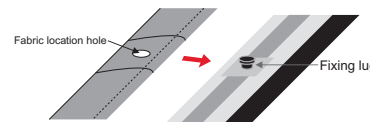

Figure 13
4. Slightly pull the fabric eyelet over the fixing lugs with each hand on each side of the fabric location hole. Make sure the fabric hole is fully fixed by the fixing lug. (Figure 13 - 15)